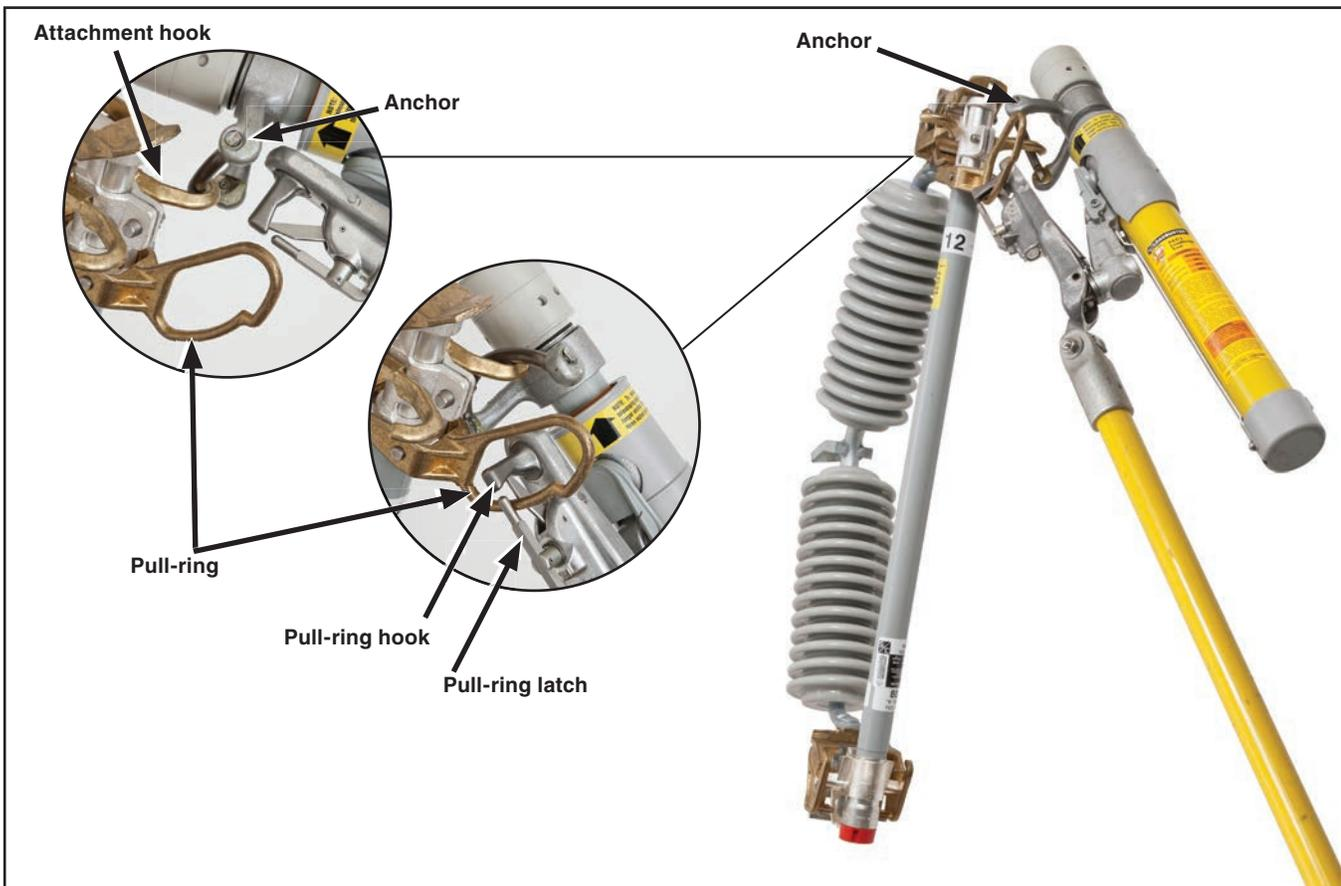

Figure 4. The Loadbuster tool connected to a Type SMD-20 Power Fuse, outdoor distribution.
Note: Although many words and illustrations are used here to describe the operation of the Loadbuster tool, correct techniques can be mastered quite easily. S&C advises spending a reasonable amount of time practicing with the Loadbuster tool on a de-energized fuse cutout, power fuse, fuse limiter, or disconnect. The operating steps illustrated in Figures 4 through 7 on pages 12 through 14, covering opening of a power fuse, apply equally to a fuse cutout, fuse limiter, or disconnect.
- STEP 1.** Reach across in front of the power fuse with the Loadbuster tool and hook the anchor, located at the top of Loadbuster tool over the attachment hook on the far side of the power fuse. See Figure 4.
- STEP 2.** Swing the Loadbuster tool toward the power fuse and pass the Loadbuster tool pull-ring hook through the pull-ring on the power fuse. The pull-ring latch will deflect and, upon complete entry of the pull-ring, will spring back, locking the Loadbuster tool to the pull-ring. The Loadbuster tool is now connected across the upper contact of the power fuse. See Figure 4.